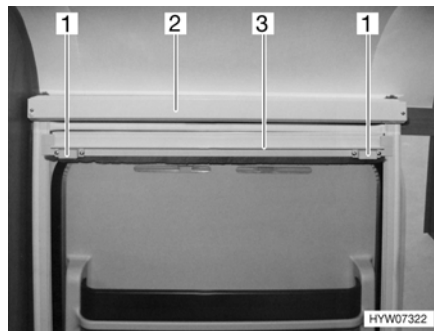

Fig. 13 Insect screen, conversion door
The insect screen of the conversion door is located in the upper blind box (Fig. 13,2).
- Closing:* ■ Pull the insect screen down by the bar (Fig. 13,3) until the magnets (Fig. 13,1) adhere to the metal bar on the floor.
- Opening:* ■ Pull the bar (Fig. 13,3) slightly upward until the magnets are released, then slowly guide the insect screen back into the blind box.